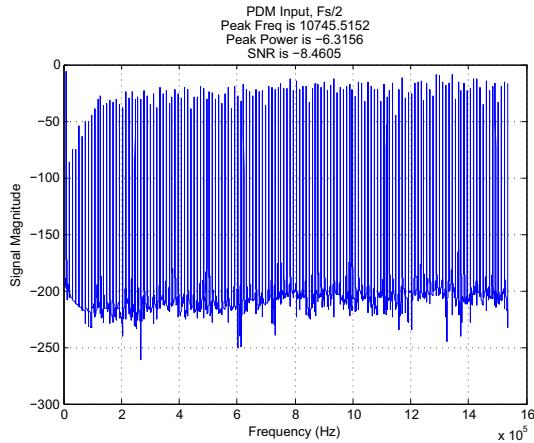
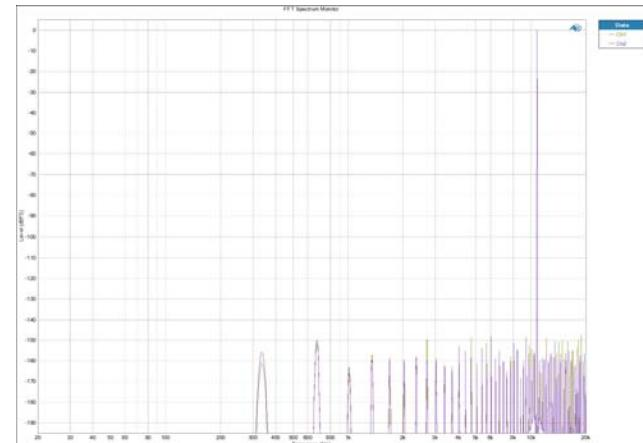
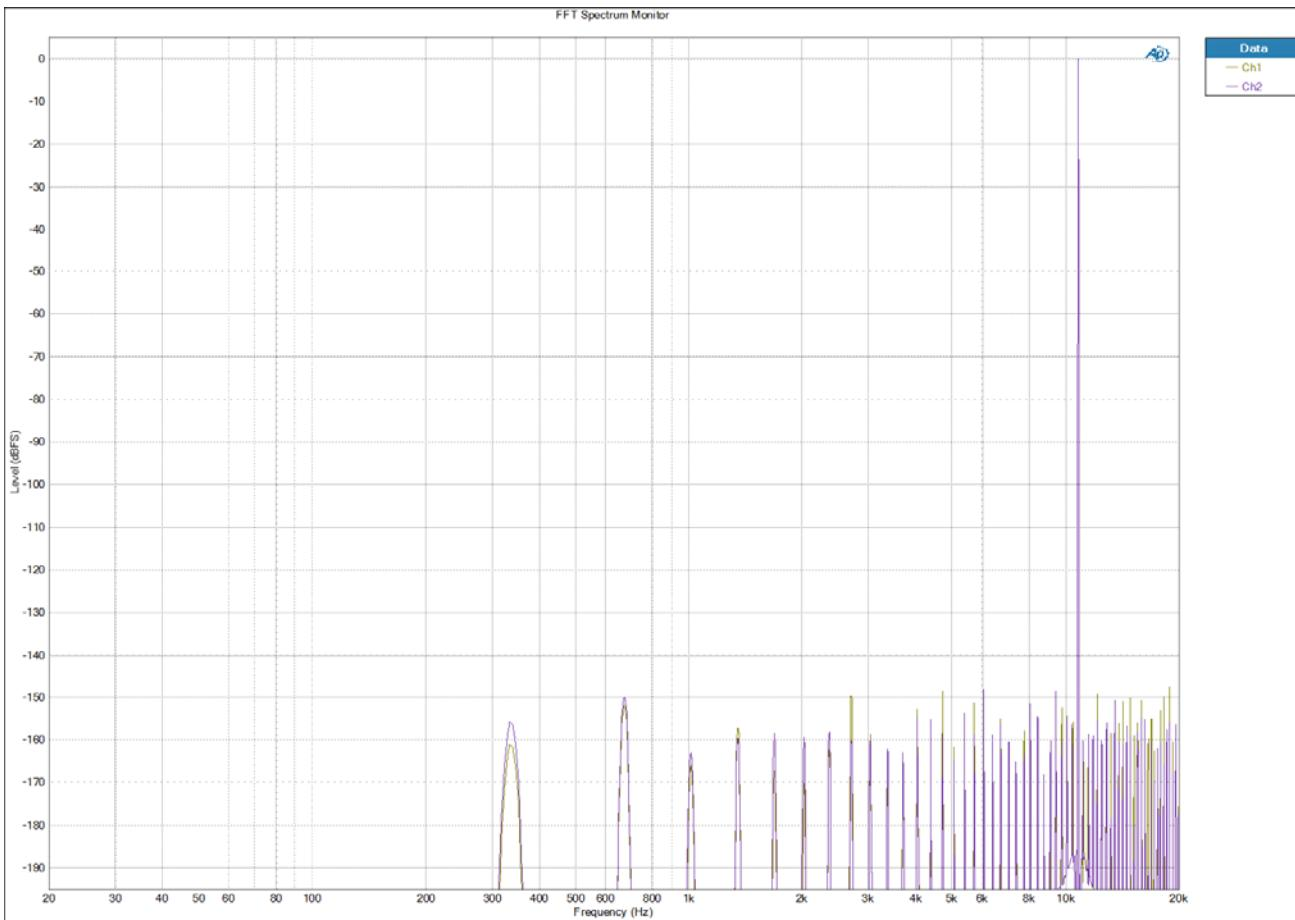

Figure 17. Specialized PDM test signal carrying a 10.745kHz sine wave
Figure 18. FFT, Fs = 48kHz, 0dBFS, 10.745kHz sine wave, Converted Linear PCM I2S Output from TSDP18xx
Figure 19. Zoom In of Figure 18
DVDD_IO = 1.8 V, T_A = 25°C, PDM BCLK Output = 3.072 MHz, LRCLK Input = 48 kHz, TDM format, OS Rate = 64x unless otherwise noted. The PDM audio stream used in the Table 4 was generated by the APx525 PDM Module, with a 5th order noise shaper. Measurements are without A-Weighting or AES-17 filter unless otherwise noted. The performance results are limited by the measurement equipment and not the design. Please refer to the SNR / DNR / THD+N Level footnote and corresponding performance plots Figure 17, Figure 18 and Figure 19 as to how this measurement was captured.
1. The > 142dB SNR / DNR / THD+N Level performance number was generated using a generated PDM data source. Please refer to Figure 17, Figure 18, and Figure 19 and the associated Figure text descriptions to learn more about how the PDM data source was generated and also how these measurements were taken.